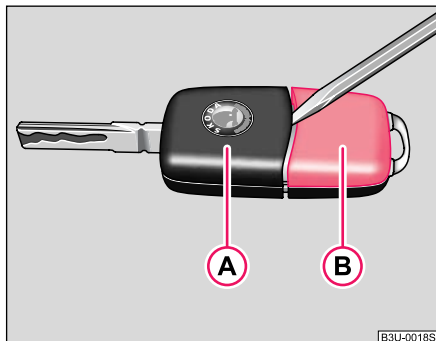

Fig. 19 Disconnect the folding key
Each radio-operated key contains a battery which is housed in the cover (B) of the transmitter housing ⇒ **fig. 19**. We recom-
- Use a thin screwdriver to carefully lever off the front part of the key (A) ⇒ **fig. 19** from the transmitter housing (B).